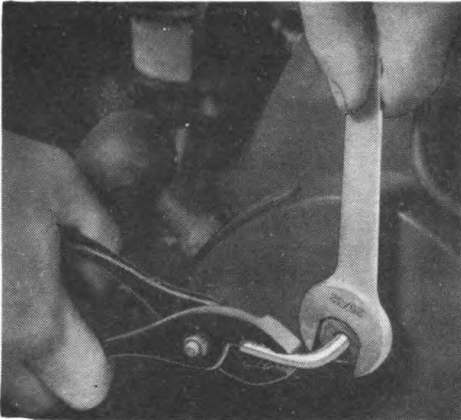

Fig 40. Loosening Allen-head set screw in flywheel nut to uncover magneto.
b. Loosen Allen-head set screw in flywheel nut, as shown in figure 40. To do this, insert larger of two Allen-head wrenches issued with M2 generator, hold nut with open-end wrench, and turn Allen-head wrench counterclockwise with aid of pliers. On a new generator, this screw usually turns hard and best results are obtained by applying considerable force slowly and steadily.